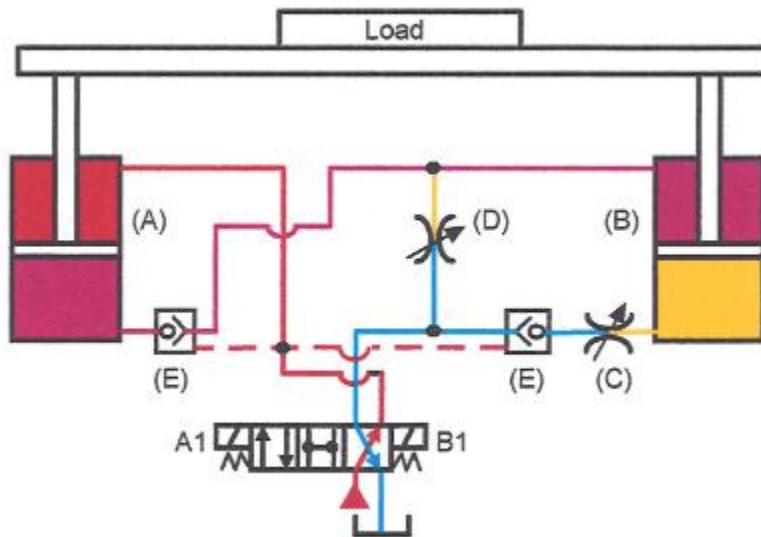

Figure 22-14. Alternative cylinder in series flow
To retract the cylinders, the directional valve shifts as in Figure 22-14, porting oil to the rod end of cylinder (A). As cylinder (A) retracts, oil from its cap end transfers to the rod end of cylinder (B). Excess oil volume from cylinder (A) goes directly to tank through needle valve (D). Needle valve (C) controls the up and down speeds of the platen.